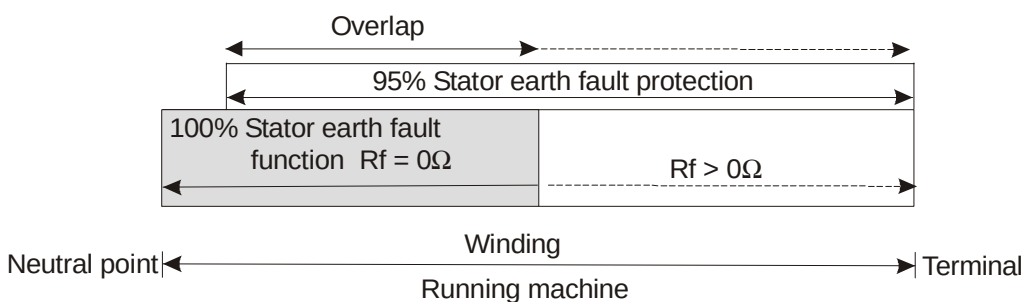

Fig. 1
- The 95% function (U_N) protects 95% of the generator stator winding from the terminals. This results in an overlap (redundancy) of the two protection functions as seen in Fig. 1.